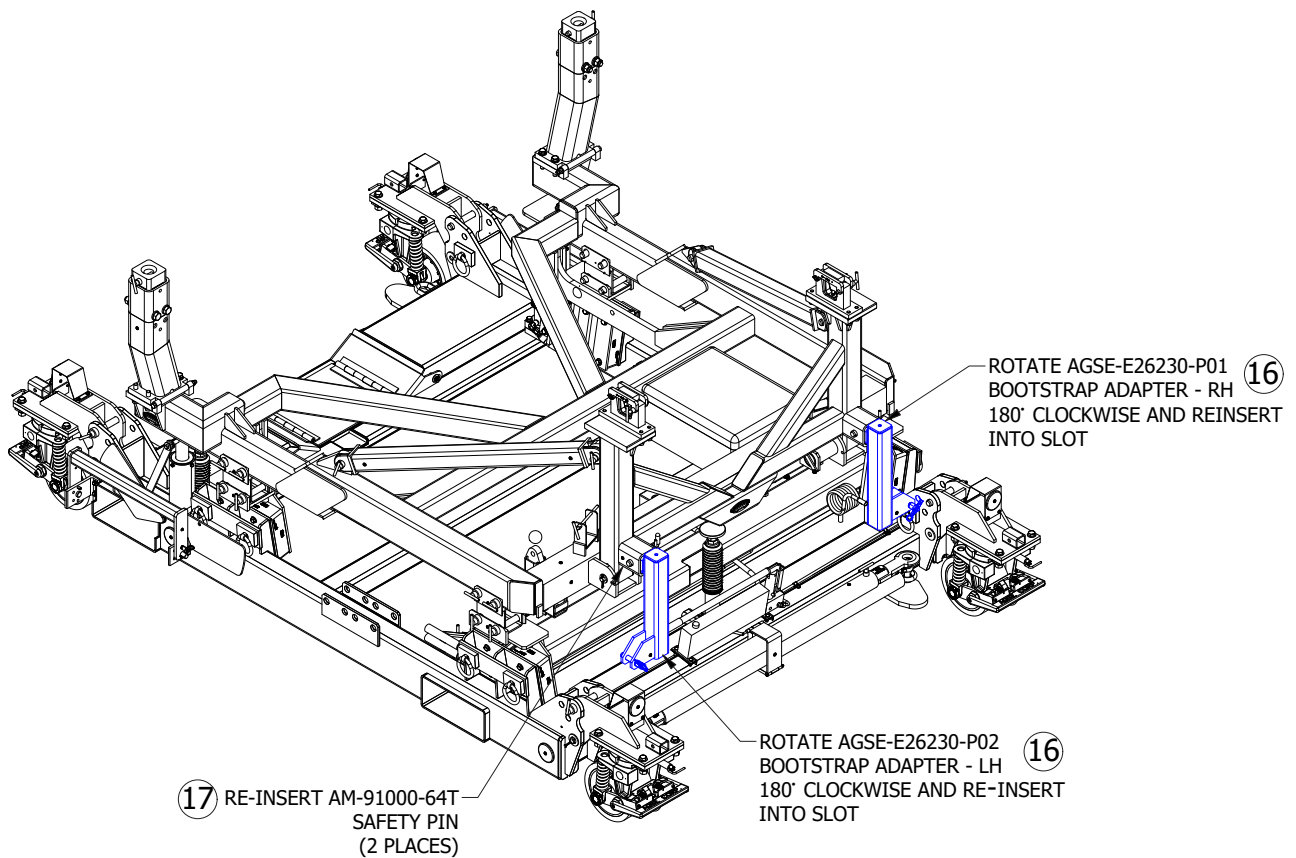

Figure 5.1-8
- 16) Rotate AGSE-E26230-P01 RH bootstrap adapter and AGSE-E26230-P02 LH bootstrap adapter 180° clockwise. (Illustration Figure 5.1-8).
- 17) Re-insert AM-91000-64T safety pin. (Illustration Figure 5.1-8).